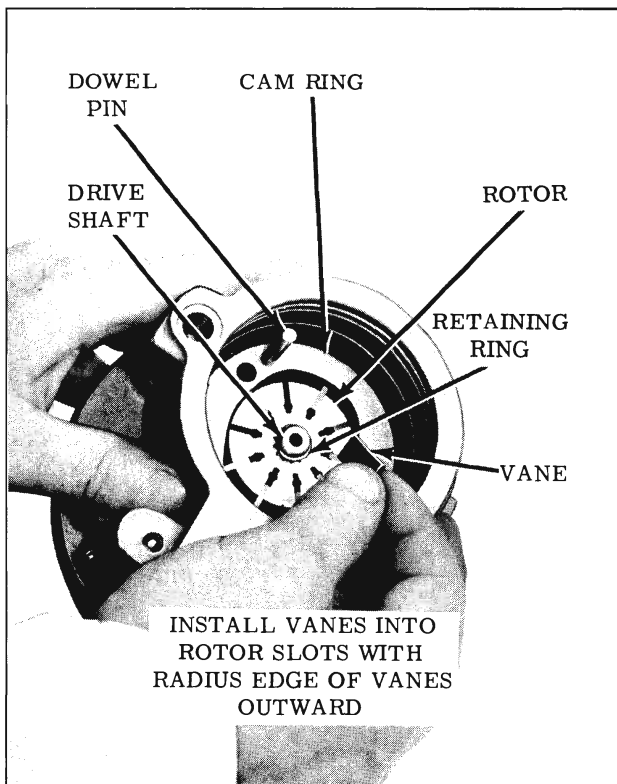

Fig. 4-243 Installing Vanes
6. Install vanes in rotor slots with radius edge towards outside as shown in Fig. 4-243.